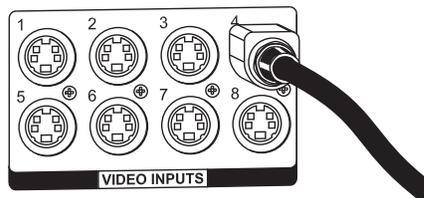

FIG. 11 Fasten cable connector to the S-Video connector
1. Fasten the cable connectors onto the input and output S-Video connectors (FIG. 11).